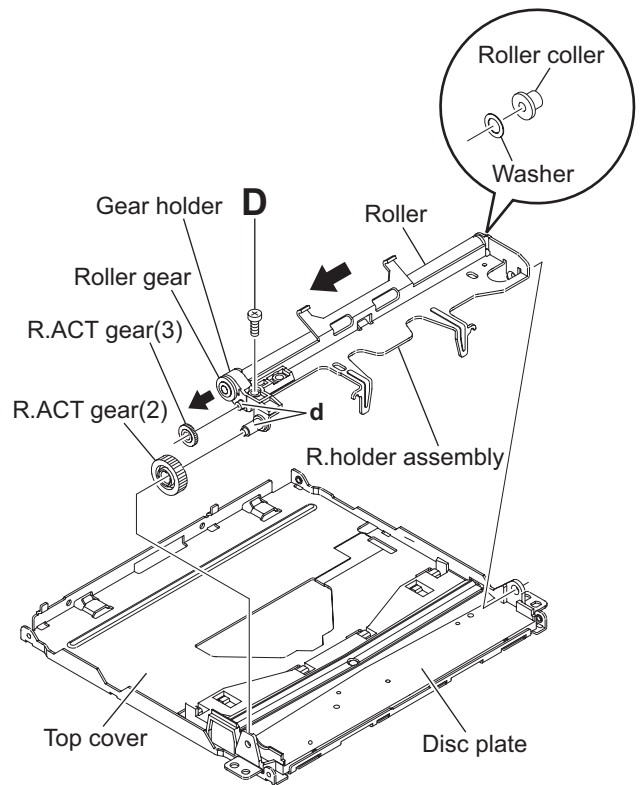

Fig.6
3.2.3 Removing the roller (See Fig.6)